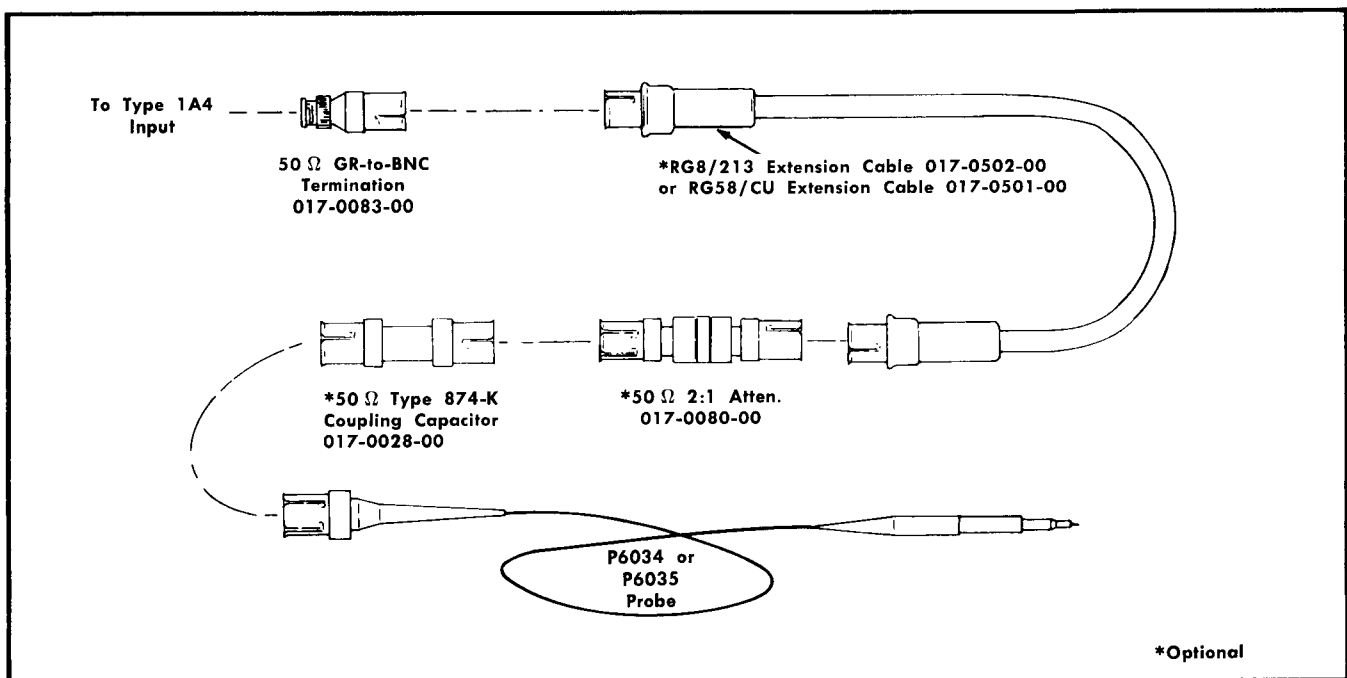

Fig. 2-5. Recommended component sequence when using the P6034 or P6035 probe. See Table 2-1.
Any of the channels can be used independently by setting the DISPLAY and appropriate MODE switch to the channel(s) desired. Connect the signal to be observed to the appropriate input connector. Table 2-1 lists several methods for applying the signal to the Type 1A4. Fig. 2-5 shows a component-sequence illustration for Method 8 outlined in Table 2-1. Fig. 2-6 shows the input impedance vs frequency curves for the Type 1A4 to show that capacitive reactance (X_c) and resistance (R) decreases as frequency increases. This effect increases loading on the circuit under test as frequency increases.